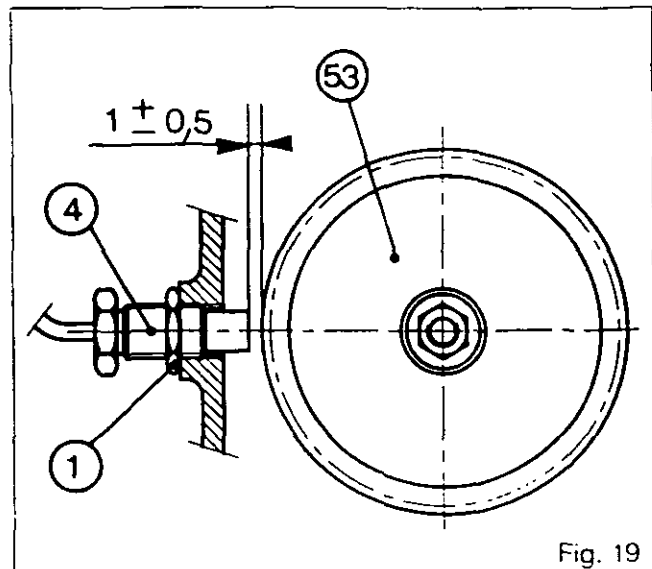

Fig. 19
106. Unscrew the sensor 3/4 of a turn to provide clearance of approx. 1 mm between the sensor (4) and the gear (53). Tighten the nut (1) to a torque of 10-12 Nm (Fig. 19).